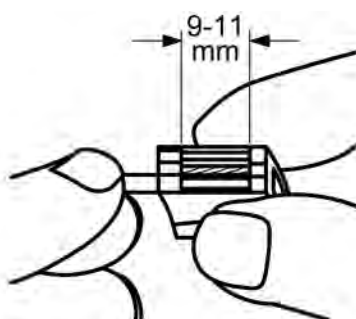

Figure 6: Stripping length
- Strip 9 - 11 mm of the cable (figure 6).